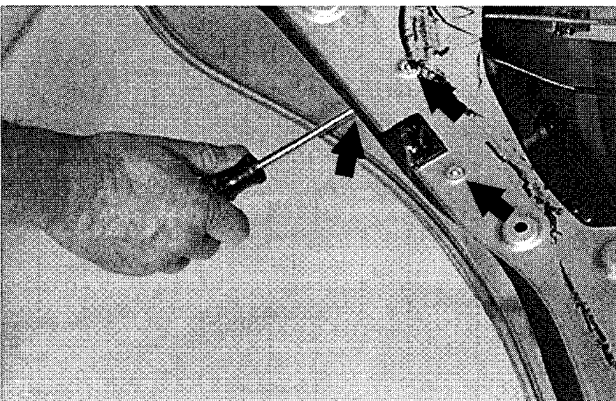

Fig. 12. Rear door lock mounting screws (arrows).
8. Remove door lock screws. See Fig. 12.